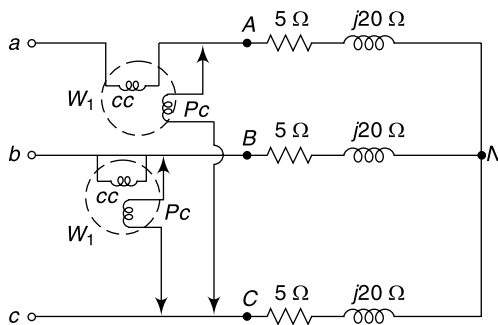

Fig. 14.100
14.133 The balanced load in Fig. 14.100 is fed by a balanced three-phase system having $V_{ab} = 200\angle 0^\circ$ V (rms). Determine the reading of each wattmeter and the total power drawn by the load.